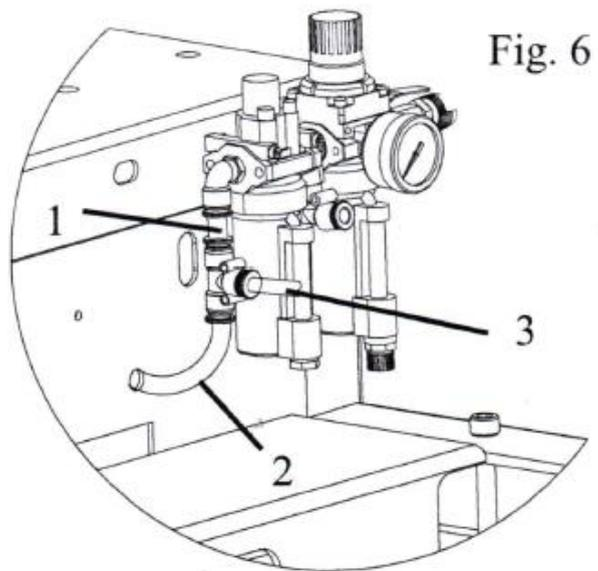

Fig. 6
- Connect the 30mm hoses to the T union (9/fig.1) in the position (1) as shown in the figure 6;
- Connect the 1000mm hose to the T union in the position (2) as shown in the figure 6;
- Connect the spiral hose (3/fig.1) to the T union in the position (3) as shown in the figure 6;
- Connect the 30mm hose to the lubricator as shown in the figure 6;